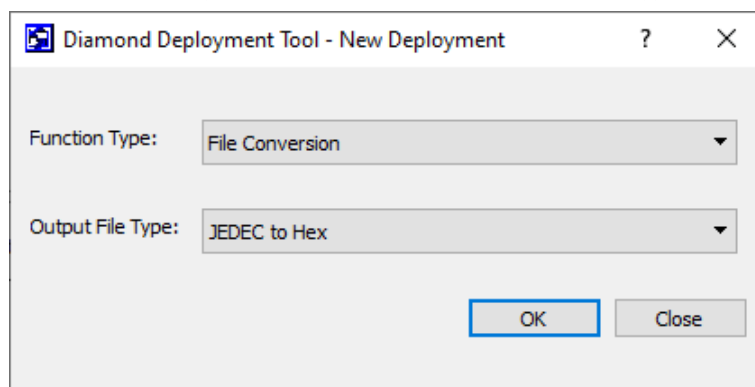

Figure 5.2. Select Function and Output File Types
4. Select **File Conversion** as the *Function Type* and **JEDEC to Hex** as the *Output File Type* as shown in Figure 5.2.